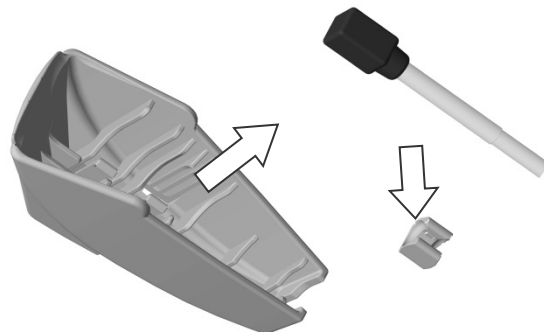

Fig.10 How to release the Magnetic sensor
- 2) Release the Magnetic sensor from the Magnetic sensor attachment as shown in Fig.10 and release the Spacer for EZU-RV2S from the Magnetic sensor.